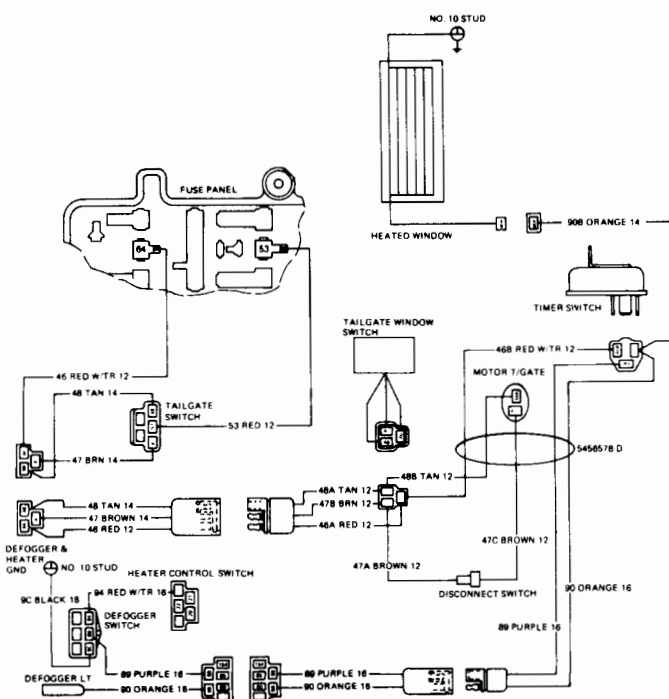

Fig. 3-103 Heated Rear Window Wiring Diagram
Braided wire, soldered to each bus bar at 2-1/2-inch intervals, serves as the electrical feed and ground for the grid. The grid feed wire is attached to the timer-relay, mounted inside the tailgate. The feed to the relay is supplied by a wire attached to the fuse panel power tailgate terminal (fig. 3-103).
- (1) Turn ignition switch on and press defogger switch.
- (2) Disconnect optional equipment wiring harness at connector under dash. Connect a 12-volt test lamp from purple wire (89) to a good ground (fig. 3-103). Test lamp should light.
- (3) Shut off defogger switch and test lamp should not light.
- (4) To test indicator light, disconnect orange wire from lamp. Connect a jumper wire from accessory terminal of fuse panel to orange wire. With ignition switch turned to ACC position, the lamp should light.
- (1) Remove tailgate trim panel and access hole cover.
- (2) Disconnect three-wire connector plug from timer-relay (fig. 3-103).
- (3) Connect a jumper wire from fuse panel accessory terminal to X-terminal on timer-relay.
- (4) Connect another jumper wire from fuse panel accessory terminal to red wire with tracer terminal of switch.
- (5) Connect third jumper wire from purple wire terminal of switch to P-terminal of timer-relay.
- (6) Connect a 12-volt test lamp from L-terminal of timer-relay to a good ground.
- (7) Turn ignition switch to ACC position. Test lamp should not light.
- (8) Press defogger switch. Test lamp should light and remain on for 8 to 12 minutes. This test should be performed with a fully charged battery. If switch or timer-relay does not function as described, replace individual unit. If timer-relay does not shut off when key is turned off, replace switch.